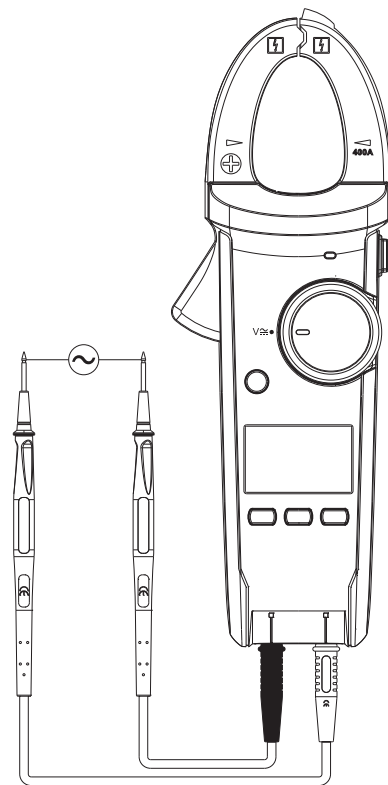

Figure 4
3. Measuring of AC Voltage (See Figure 4)